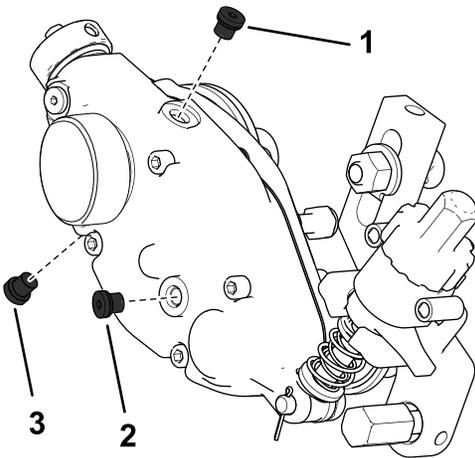

Figure 32
2. Remove the drain plug on the bottom of the housing (Figure 32).
3. Remove the fill plug on the side of the housing and loosen the air vent plug on the top so air can pass through (Figure 32).